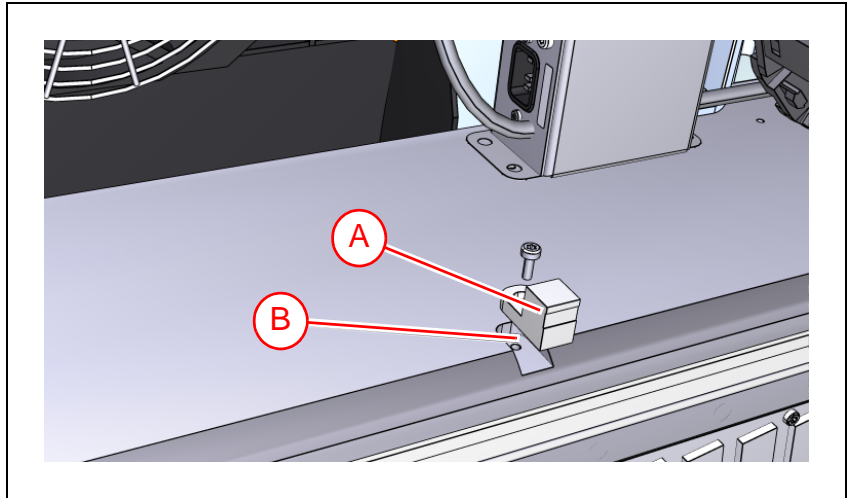

*Figure 5-15. Adjusting the ATA sensor position.*
2. Start adjusting the ATA sensor ('A' in Figure 5-15) on the left X wagon (MY100 DX) or right X wagon (MY100 SX). Place the X wagon in the middle of its two outer positions on the X beam.